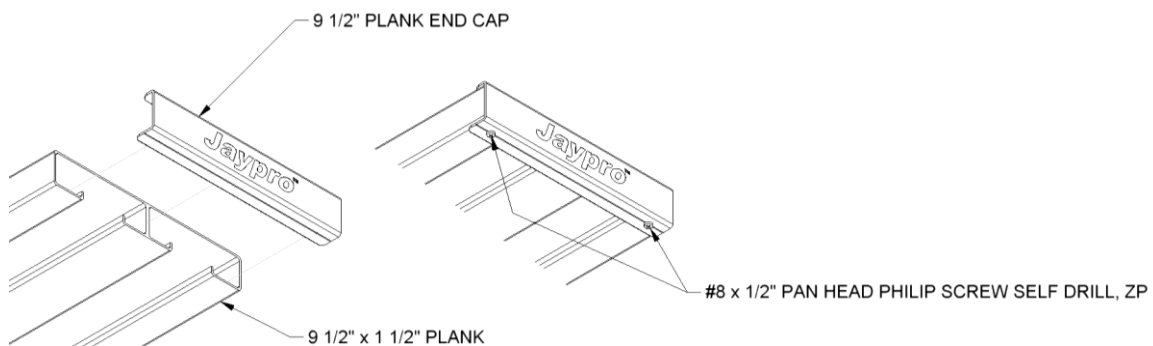

FIGURE: 4
4. Install end caps on both ends of each plank as shown in figure 4 – lightly tap on with a rubber mallet if necessary. Secure end caps in place using the #8 pan head self-drilling screws.